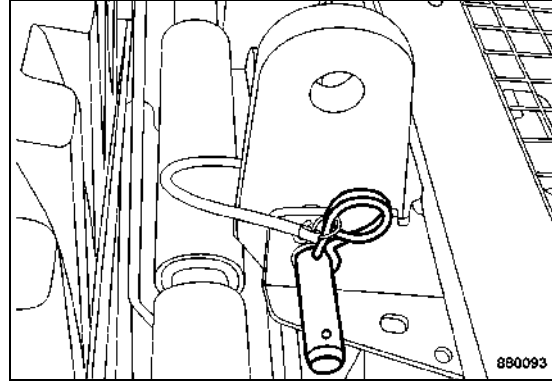

Fig. 94
**Before pulling out the bolt (Fig. 94) make sure that the chip spreader is mounted correctly.**